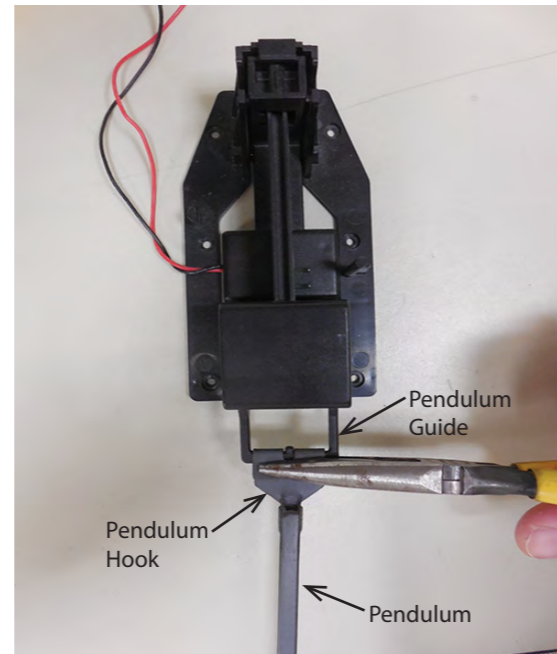

Figure 13
13. The pendulum hook must fit snug on the pendulum guide to prevent wobbling and erratic movement. If the pendulum fails to continue swinging or wobbles, the pendulum hook can be tightened to fit snug to the pendulum guide by squeezing the pendulum hook with pliers as shown (Figure 13).